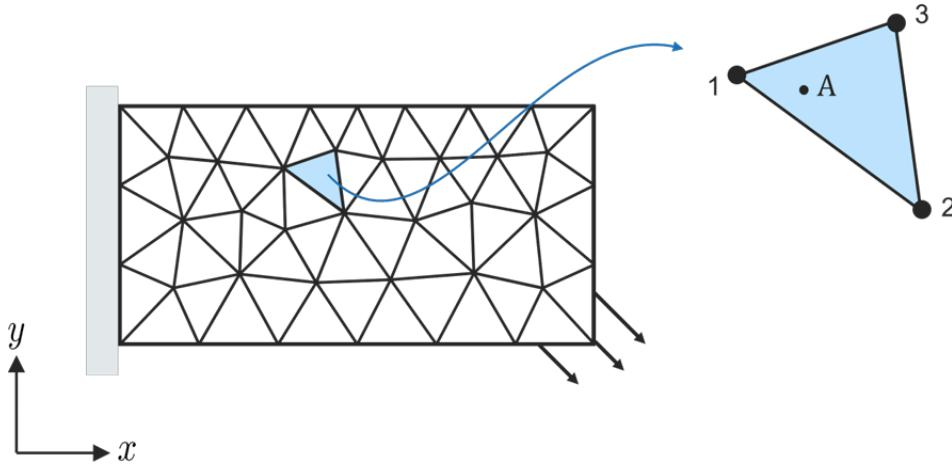

Figure 3: Illustration of component with discretization and the considered element in Problem 3.
Assume a mechanical FE simulation has been performed of a component with thickness $t = 0.015\text{ m}$. The material is assumed linear elastic with Young's modulus $E = 210\text{ GPa}$ and Poisson's ratio $\nu = 0.3$. The simulation used a discretization of linear isoparametric triangular elements as can be seen in Figure 3. In this problem, you will only consider a single element (among those
- a) Consider a point A within the element with local coordinates $[0.2, 0.1]^T$ in the parent domain. (The point is shown in the right part of Figure 3.) For this point, calculate the corresponding global coordinates $\boldsymbol{x}_A = [x_A, y_A]^T$. (1p)